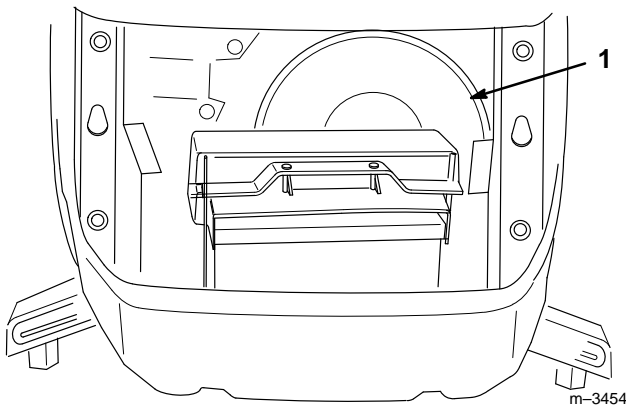

Figure 21
- 7. Remove the belt from around the PTO pulley (Fig. 21). Additional belt slack can be obtained (if needed) by turning the belt tension adjustment knob.